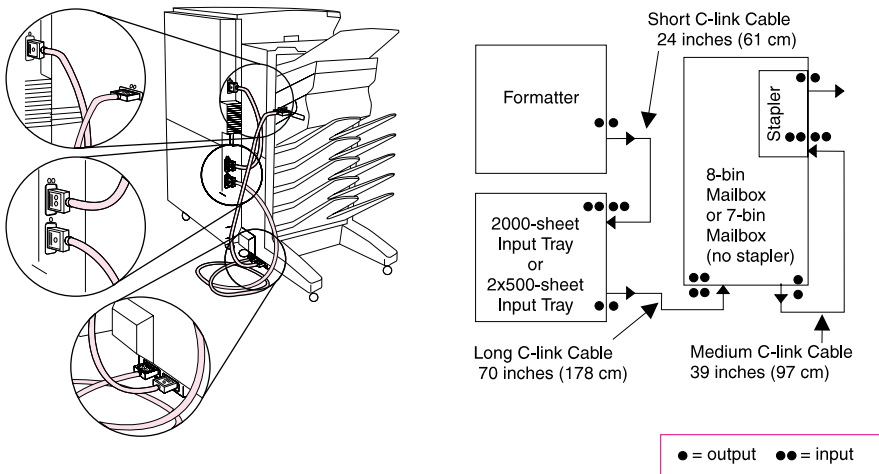

Figure 7-7 Communications Link (C-link) Cables, Supported Daisy Chain Connections
Note It is important that the C-link cables are installed in the supported daisy chain configuration as shown in figure 7-7. This is so that the devices are recognized and correctly reported on the Event Log.
If any of the installed devices are not shown on the configuration page, verify that the C-link cabling is correctly connected and functional (figure 7-7) and that DC power is available to the paper handling devices. Check and reseal suspect cable connections. If any of the cables are replaced, you must cycle the power to have the printer recognize the device again.
- 5 Verify that the C-link cables are connected as shown in figure 7-7 on page 583.